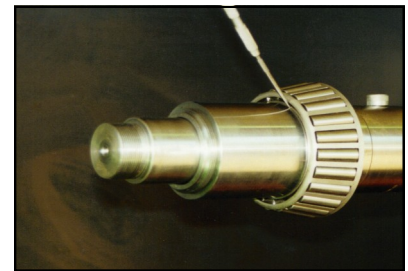

Fig 5.
Step 4. Fit the spacer onto the axle, large end first, ensuring that it seats against the inner bearing race, Fig 5.